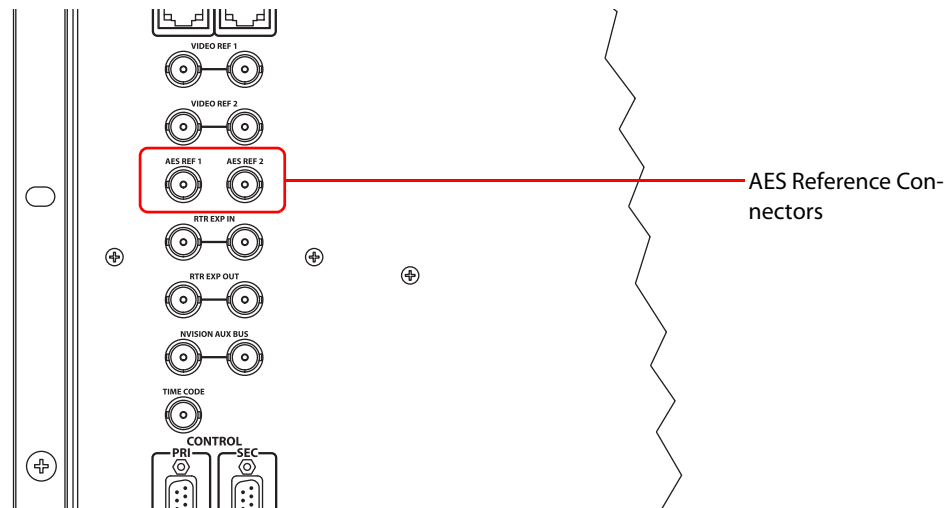

Fig. 2-20: AES Reference connection (Rear View)
- 1 Locate the AES reference connections on the rear of the router, as shown in Figure 2-20. AES reference connections are labeled **AES REF 1** and **AES REF 2**.